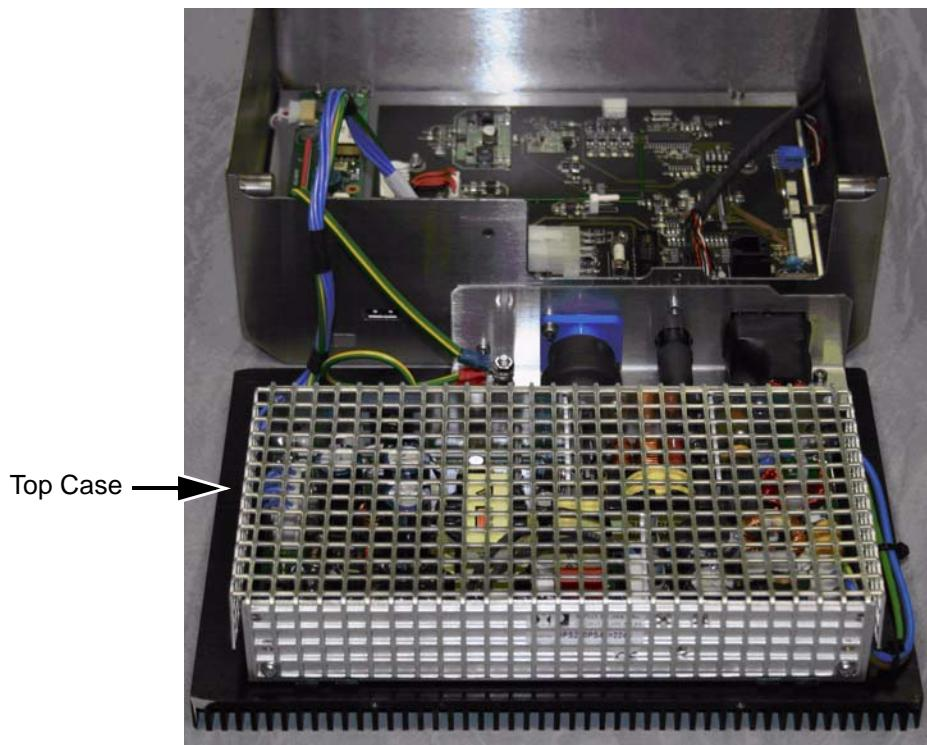

Figure 5-3:Top Case Removal
- 2 Remove the top case (Figure 5-3).